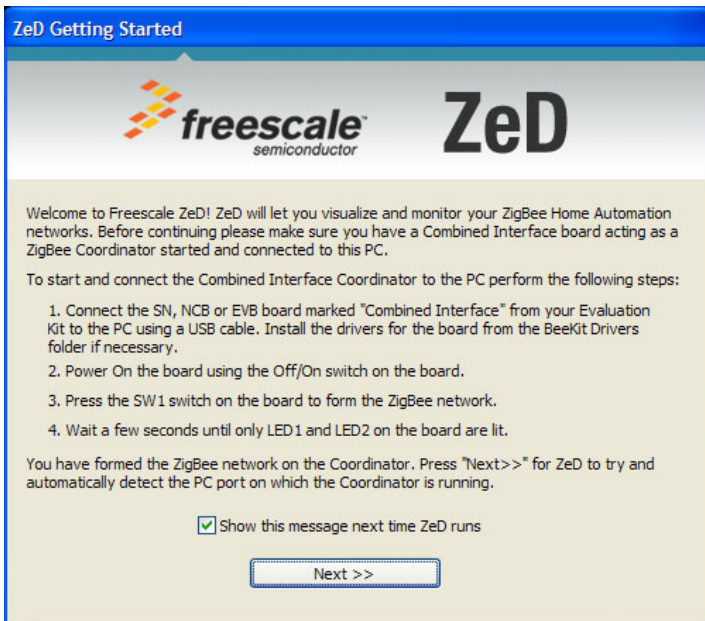

Figure 2. ZeD Getting Started Message
2. If ZeD is started for the first time, it displays a short introduction message on how to connect the Combined Interface board (ZigBee Coordinator) to the PC as shown in Figure 2.